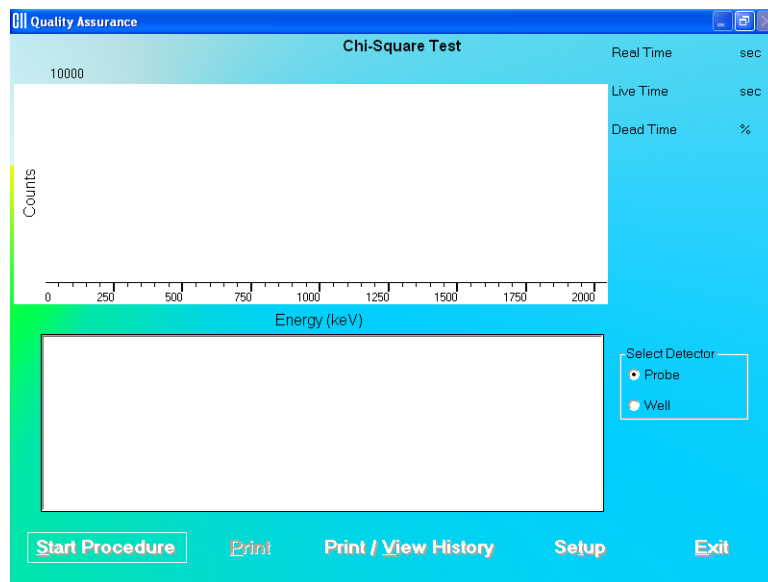
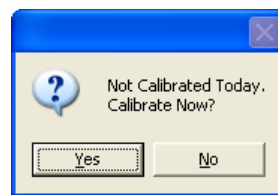

Figure 5-16 Chi-Square Test Screen
Figure 5-19
1. Click the **Chi-Square Test** button or press **Alt+H** on Figure 5-1 Quality Assurance Main Screen. The screen appears as shown in Figure 5-16 Chi-Square Test Screen.
- Click the **Done** button or press *Alt+D* to save the added information or click the **Cancel** button or press *Alt+C* to cancel the changes and return to Figure 5-16 Chi-Square Test Screen.
Note: *If calibration has not been performed using the selected detector, you will be prompted with the screen as shown in Figure 5-19. After the calibration is complete, the program will return to Figure 5-16 Chi-Square Test Screen.*